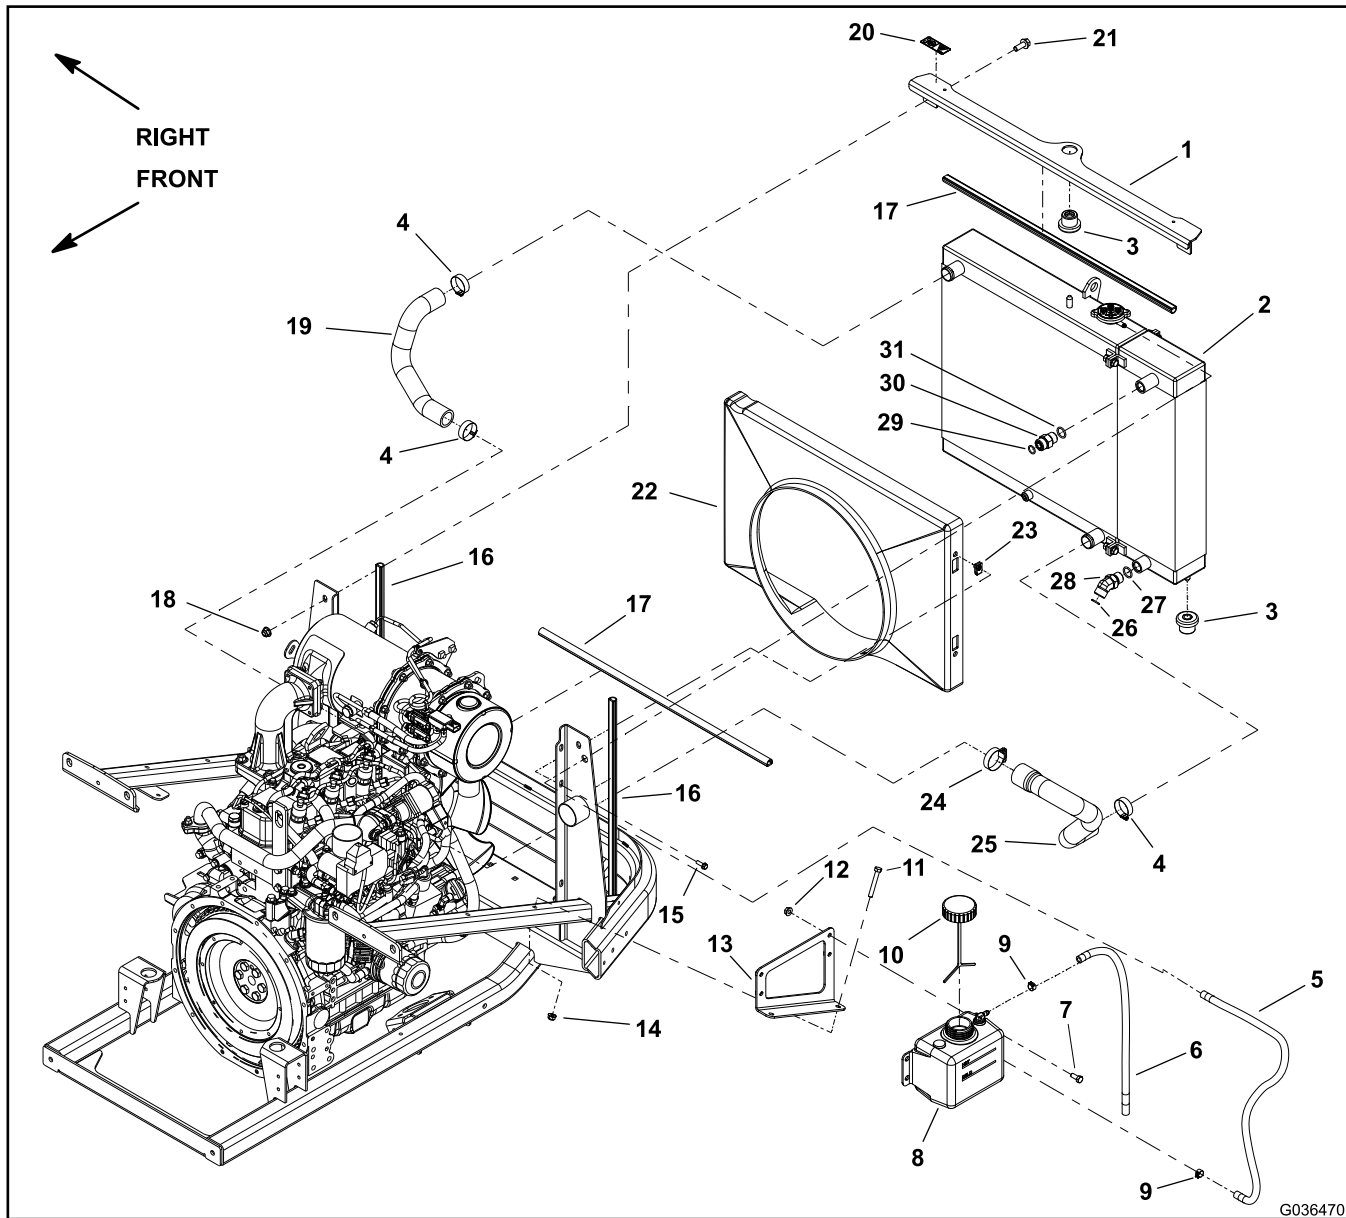

Figure 10
- The upper radiator hose (item 19 in Figure 10) that is connected to the water pump.
- The lower radiator hose (item 25 in Figure 10) that is connected to the engine block.
- The coolant hose (item 5 in Figure 10) that is connected to the coolant reservoir assembly.
7. Disconnect the upper hydraulic tube from the straight hydraulic fitting (item 30 in Figure 10). Disconnect the lower hydraulic tube from the 45° hydraulic fitting in the oil cooler and completely drain the hydraulic fluid from the oil cooler into a suitable container.
8. Remove the fan shroud as shown in Figure 10. Carefully position the fan shroud away from the radiator and ensure that you do not damage the fan.
9. Remove the 2 flange-head screws (item 21 in Figure 10) and 2 flange nuts that attach the radiator support to the radiator frame, and remove the radiator support.
- D. Remove the fittings from the oil cooler as necessary (Figure 10) and discard the O-rings from the fittings.
13. Check the condition of the rubber isolator mounts (item 3 in Figure 10) and replace the mounts if damaged.
14. Check the condition of the bulb seals (items 16 and 17 in Figure 10) and replace the bulb seals if damaged.
- A. If the hydraulic fittings were removed from the oil cooler, lubricate and install new O-rings to the fittings. Install the fittings into the oil cooler ports (Figure 10).
5. Install the radiator support (item 1 in Figure 10) to the radiator frame, press the radiator support at the top with enough force to compress the bulb seal to a maximum thickness of 6.35 mm (0.25 inch) before tightening the fasteners.
6. Carefully position the fan shroud to the radiator. Secure the fan shroud to the frame as shown in Figure 10.